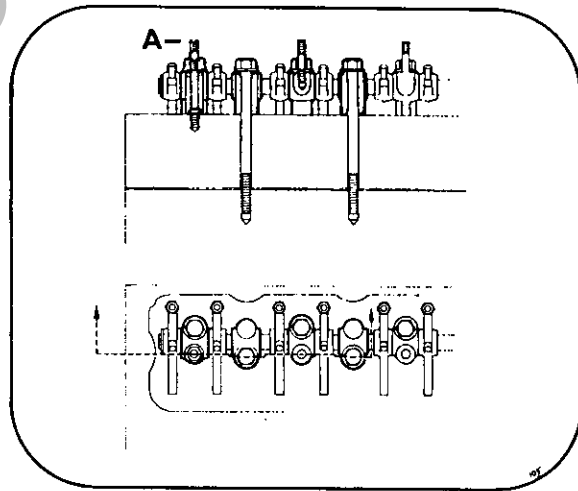

Fig. E.1
3. Remove the nuts from the two studs locating the rocker arm shaft "A". (Fig. E.1).